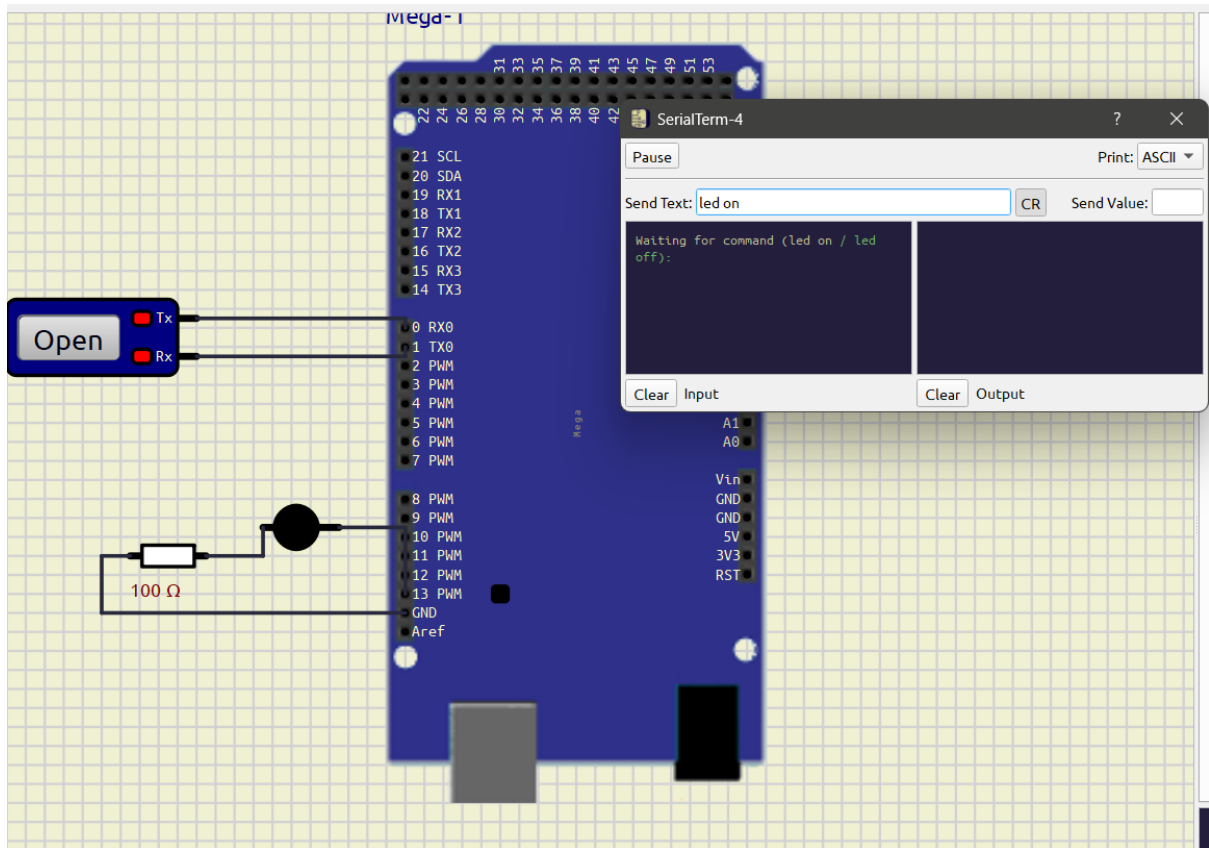

Figure 7: Serial monitor prompting for input
2. Figure 7 displays the serial monitor prompting the user for input.